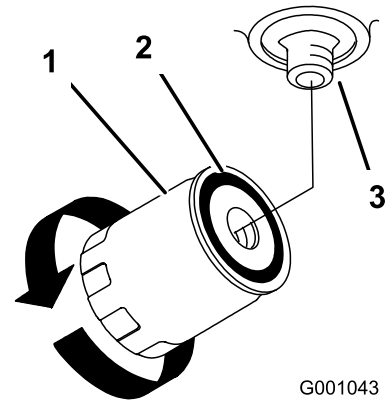

Figure 76
4. Apply a thin coat to the rubber gasket on the replacement filter (Figure 76).
6. Fill the hydraulic tank with hydraulic fluid until the fluid overflows the filter and then turn the oil filter clockwise until the rubber gasket contacts the filter adapter, then tighten the filter an additional 1/2 turn (Figure 76).